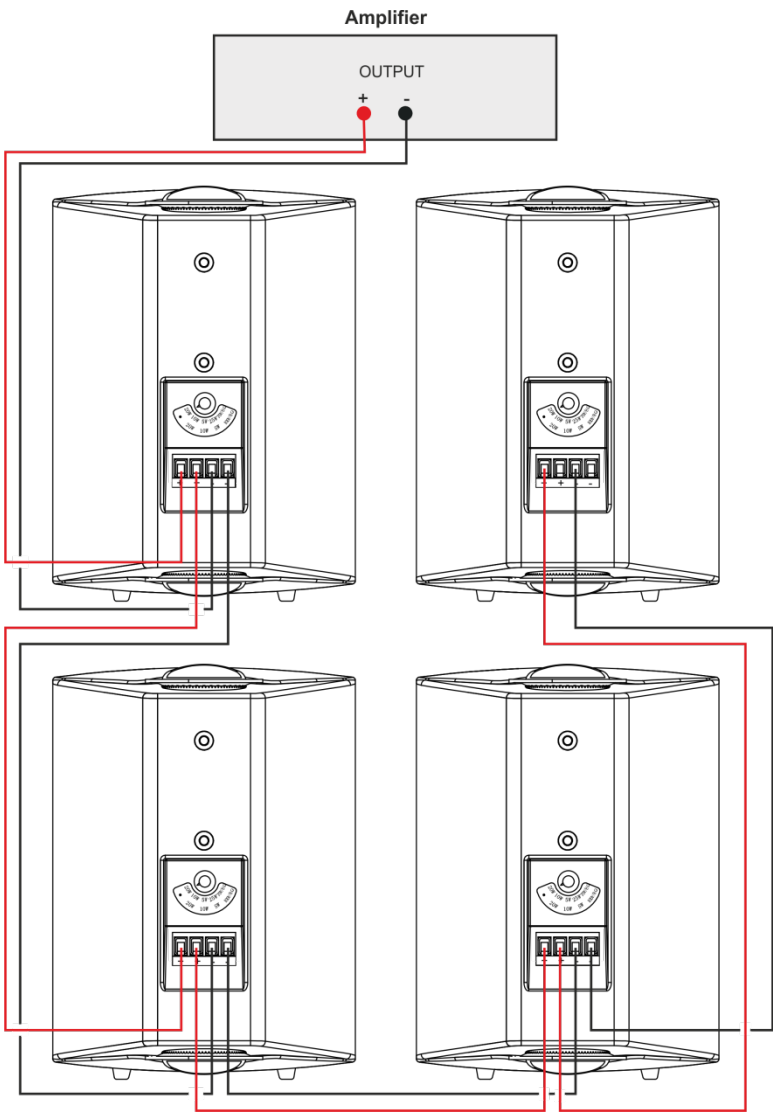

Figure 6: Square Layout Parallel Wiring
7. If required, connect the + and - terminal blocks to the + and - terminal blocks of an adjacent speaker (as illustrated in the example in Figure 6).
Figure 6 shows an example of parallel wiring in a square array installation: